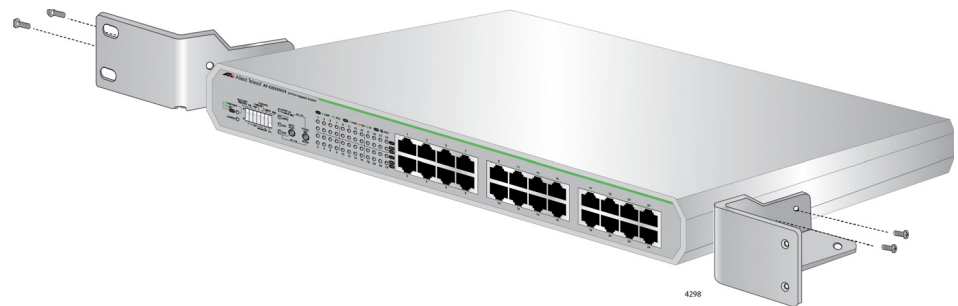

Figure 10. Attaching the Brackets to the AT-GS920/24 Switch
4. Orient the brackets against the sides of the switch and secure them to the switch with the four screws provided as shown in Figure 10.